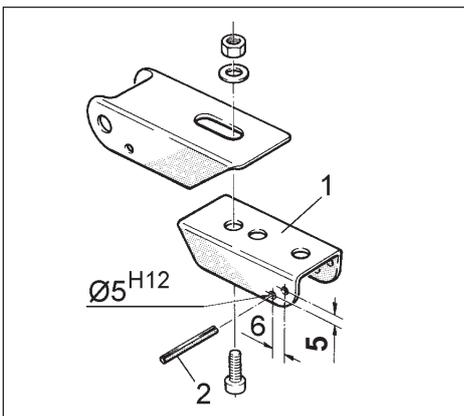

Fig. 26.60
- Remove expansion pin of the retaining ratchet (Fig. 26.60/1)
- Drill a new hole ($\varnothing 5^{H12}$ mm) for the retaining ratchet according to Fig. 26.60.
- Drive new expansion pin 5 x 33, DIN 1481 (Fig. 26.60/2) into the retaining ratchet.